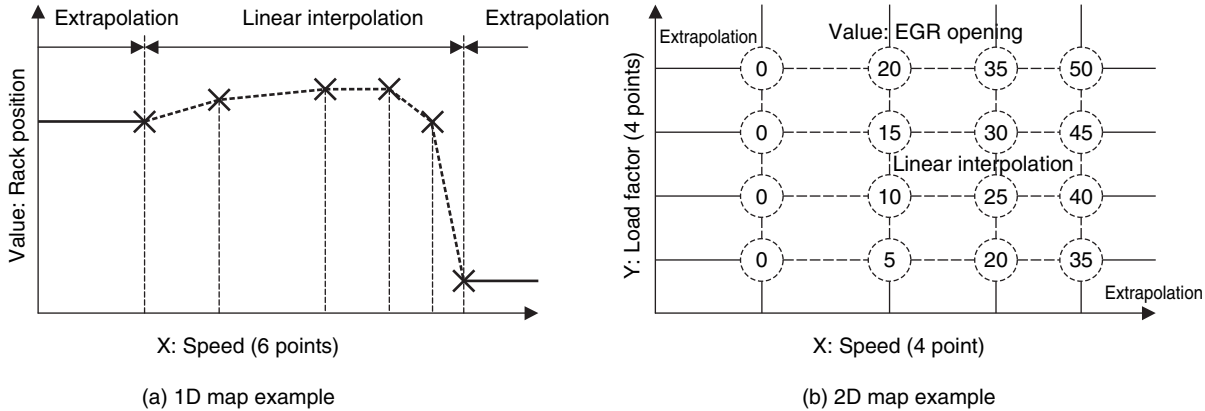

Figure 2-23 1D/2D map and interpolation
- (See **Figure 2-23** (a) in the figure below).
- (See **Figure 2-23** (b) in the figure below).